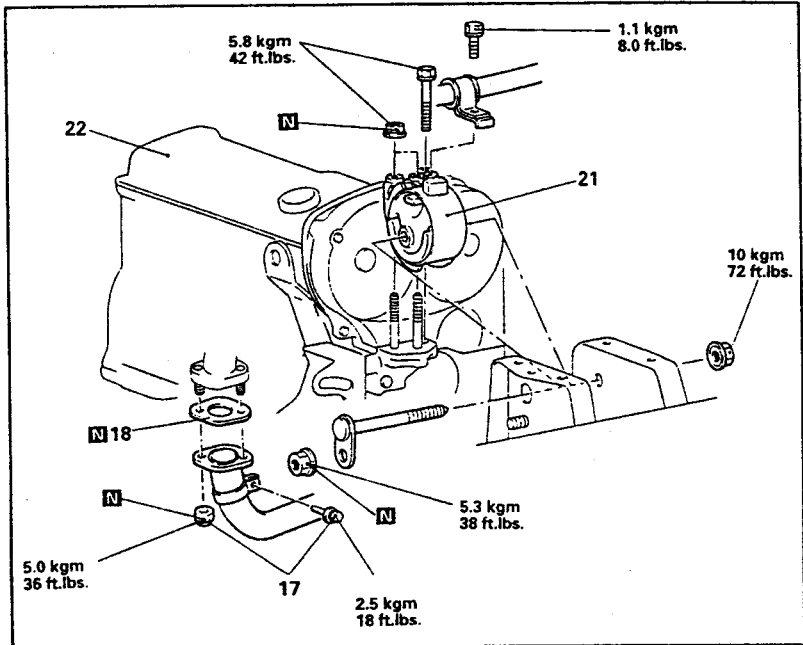

Fig. 15.4. — Remaining parts to be removed/disconnected during the removal of the engine.
- Unscrew the two hollow bolts, remove the sealing washers and carefully take off the two hoses. Two further sealing washers are behind the hoses and must be collected (always replace washers). Hose (15) is the oil feed hose to the engine, hose (16) is the oil return from the engine. Take care not to interchange them.
- From below the engine unscrew the front exhaust pipe from the exhaust manifold and free the tube from the bracket. The self-locking nuts must be replaced. The latter items are shown in Fig. 15.4 by items (17). Remove and discard the exhaust pipe-to-manifold gasket (18). The gasket must always be replaced.
- Disconnect the cables from the alternator (19) and at the same time the connector plug for the oil pressure switch connector.
- Suspend the engine and transmission on a chain or rope and slightly lift the unit until just under tension. Place a trolley jack underneath the engine oil sump (piece of wood between jack head and sump) and lift up the engine until there is no more tension on the engine mountings. Remove the engine mounting brackets (21 in Fig. 15.4). Section 15.1.1. gives further details of the mountings).